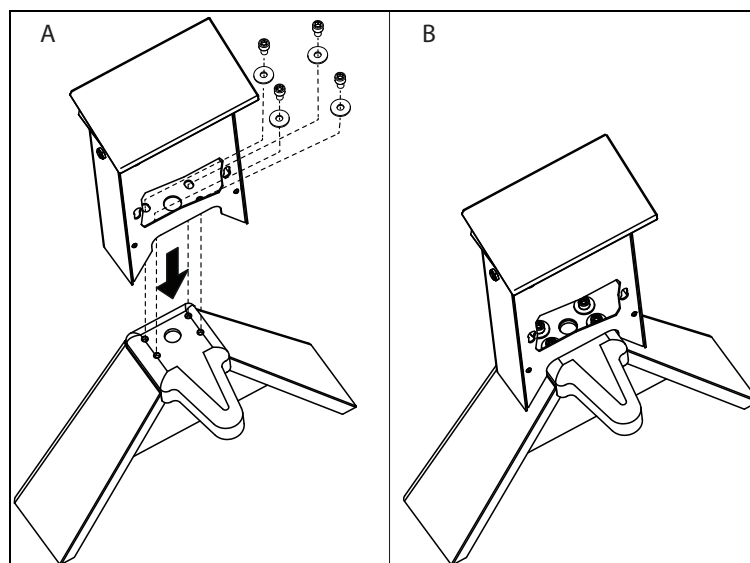

Figure 2-1. Indicator Stand Assembly
Refer to Figure 2-1 and the steps within this section to assemble the indicator stand to the main fork assembly.
2. Place the indicator stand on the fork assembly, being careful not to pull or pinch the load cell wires (Figure 2-1-A).
6. Secure indicator stand with four M10 x 15 mm screws and M10 washers using an 8 mm hex key (Figure 2-1-A).
7. Reattach the front plate to the indicator stand, using the provided hex screws (4) (Figure 2-1-B).